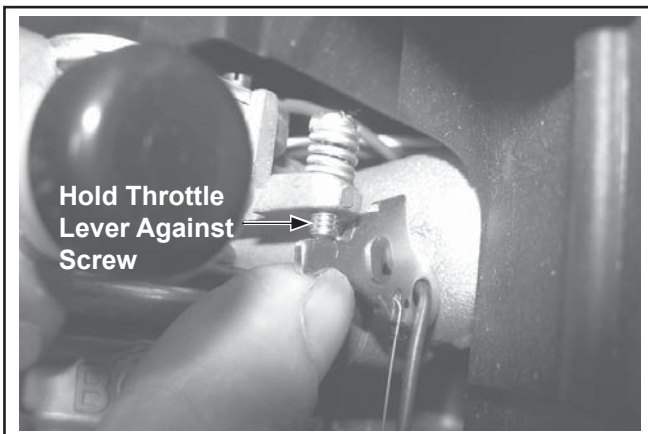

Figure 5-8. Holding Throttle Lever Against Idle Stop Screw.
2. Move the throttle control to the idle position. Hold the governor lever away from the carburetor, or hold the throttle lever so it is tight against the idle speed adjusting screw, to negate the governor activation. See Figure 5-8. Check the speed with a tachometer and adjust it to 1500 RPM.